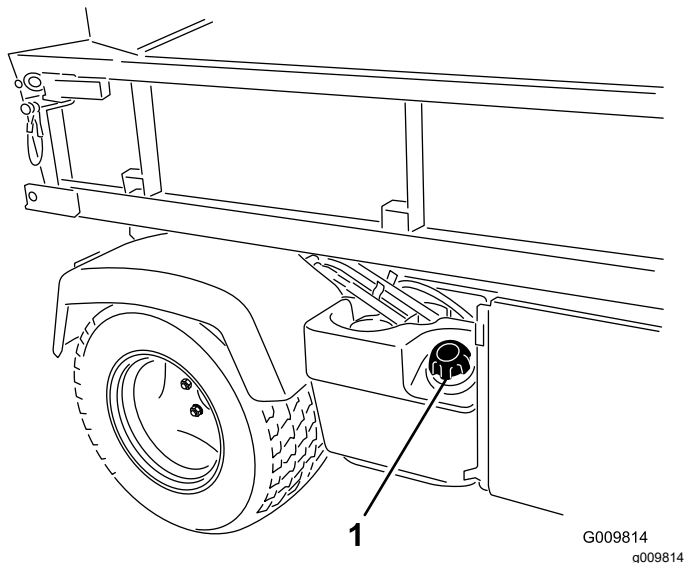

Figure 17
2. Remove the fuel-tank cap (Figure 17).